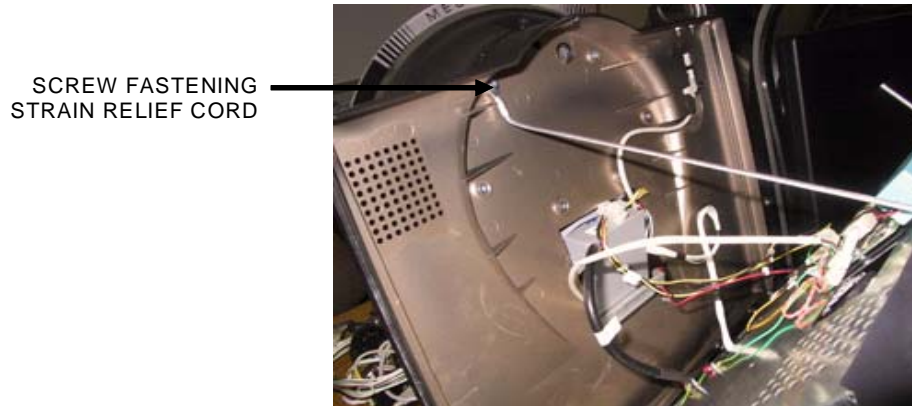

FIGURE 8 - HALFWAY-OPEN MONITOR ASSEMBLY
10. Remove the screw fastening the strain relief cord. See Figure 8. Open the assembly all the way and rest it on a support.
36. Fasten the strain relief cord using the screw you removed earlier (see Figure 8).